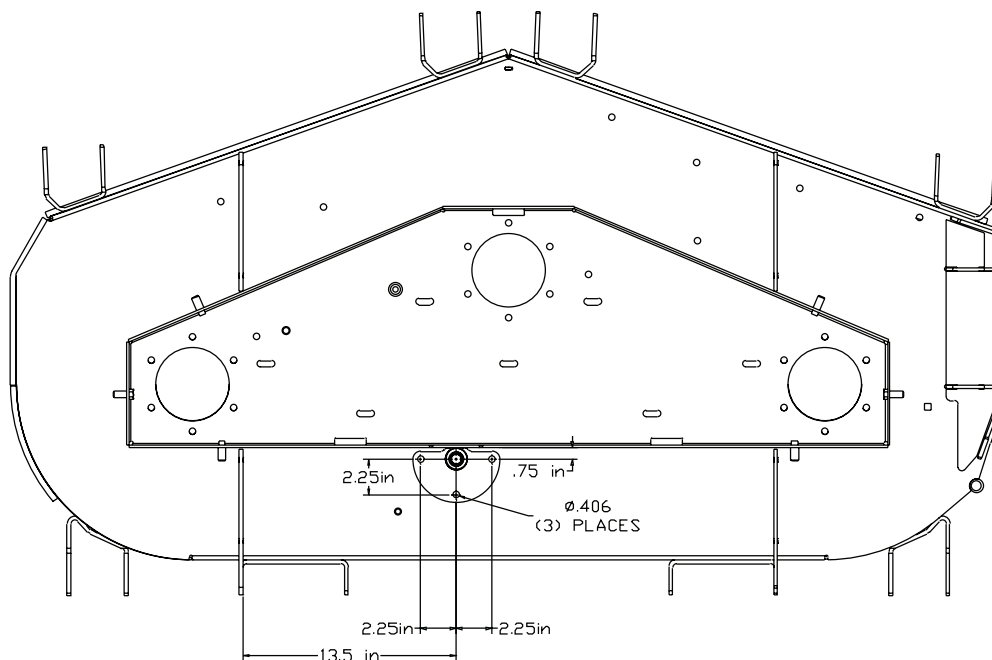

FIGURE 1
2. Locate new pin weldment as shown in **Figure 1**, mark and drill three 13/32" holes.